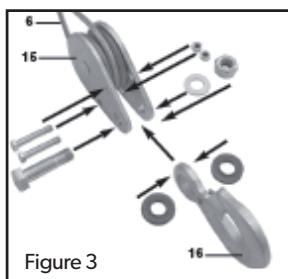

Figure 3
Fit the return roller (15) and additional hook (16) as shown in Figure 3 – 5. The permanent hook (8) must be attached to the fastening hole (2) (Fig.6). The load is now raised by two steel cables, which means that the cable hoist can lift twice its rated load.